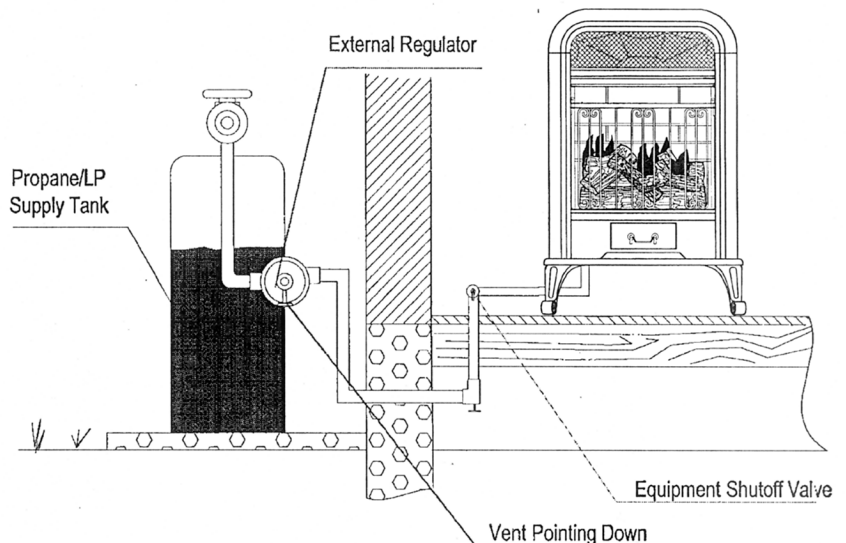

Figure 10 - Checking Gas Joints
4. Check all joints from equipment shutoff valve to control valve (see Figure 10). Apply mixture of liquid soap and water to gas joints. Bubbles forming show a leak.
3. Check all joints from gas meter to equipment shutoff valve (see Figure 10). Apply mixture of liquid soap and water to gas joints. Bubbles forming show a leak.